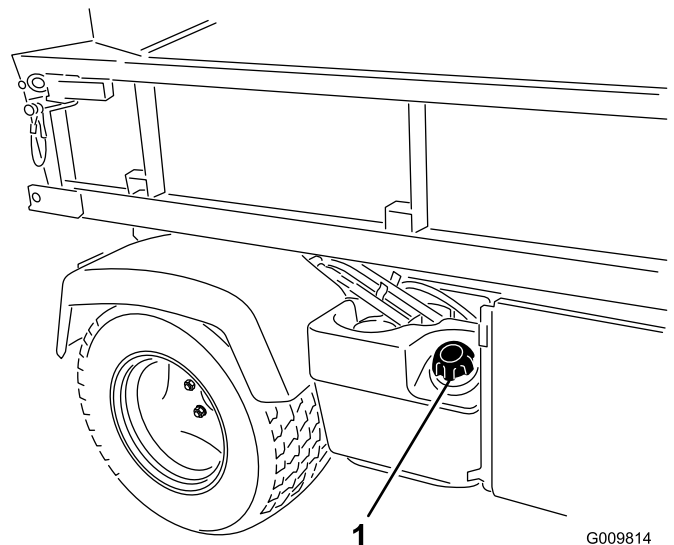

Figure 15
2. Remove the fuel-tank cap (Figure 15).